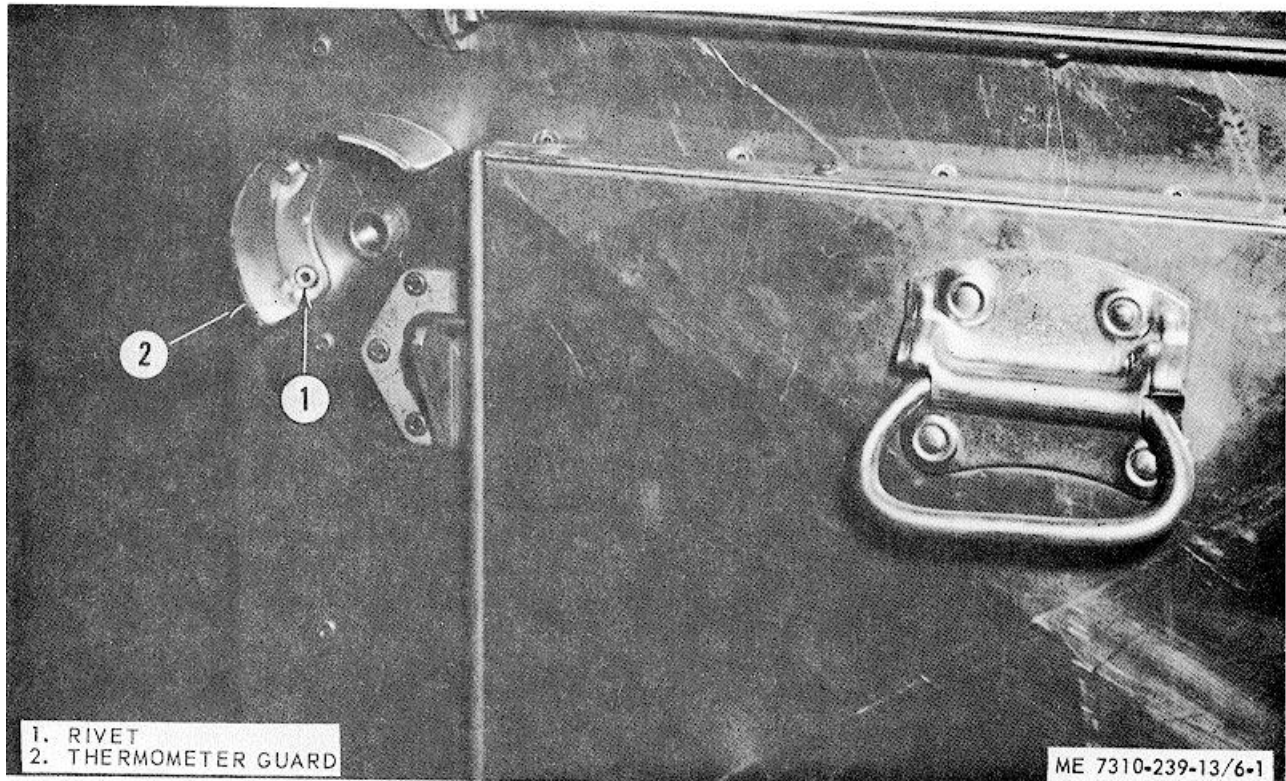

Figure 6-1. Thermometer guard, removal and installation.
- (1) Remove thermometer (para 4-11).
- (2) Remove rivets (1, fig. 6-1) securing thermometer guard (2) to front of oven.